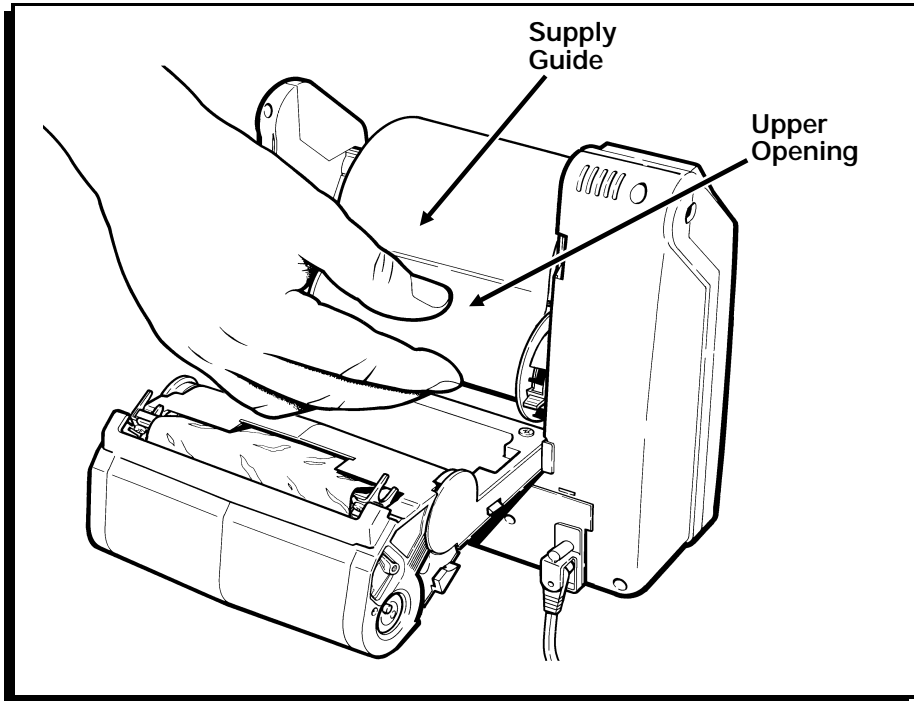

Figure 29
12. Feed the supply strip through the upper opening in the supply guide. (Figure 29.)